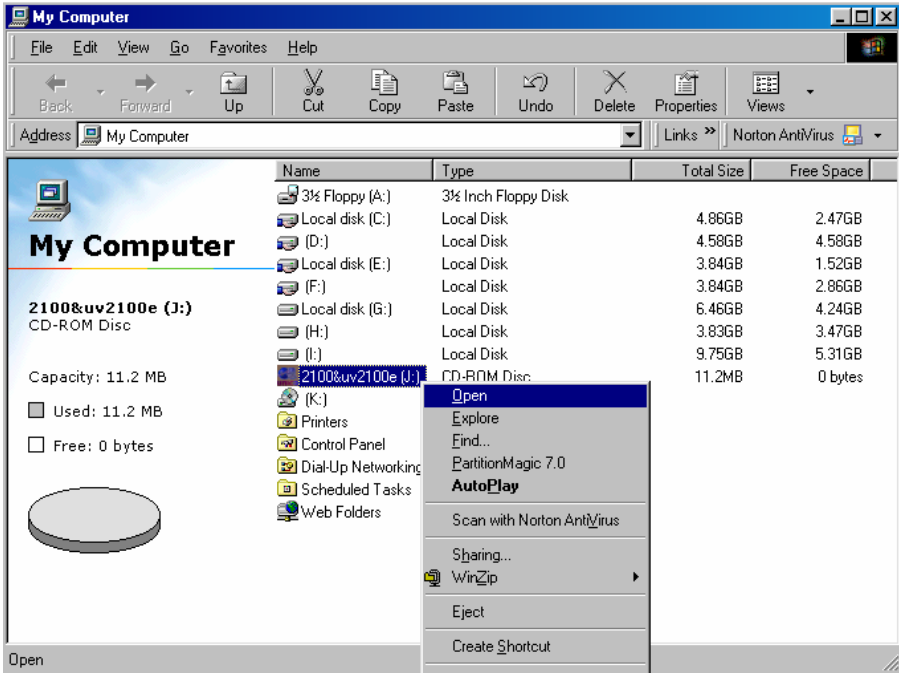

Figure-3 Open CD Drive
- Step 3: Right click the CD Drive Label and click **Open** as shown in Figure-3